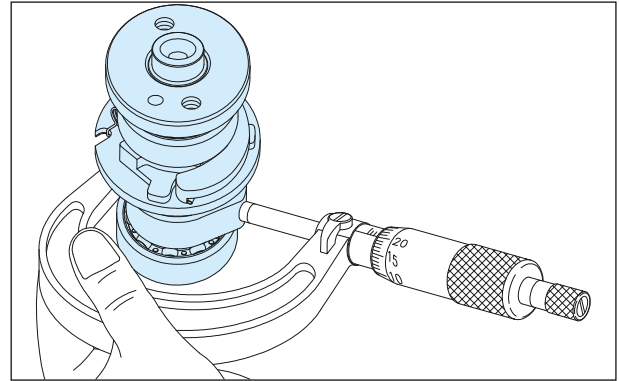

Fig. 3.115
- Measure the cam lobe height. If the lobe height is less than the service limit then, replace the camshaft complete with a new one. (Fig. 3.115)